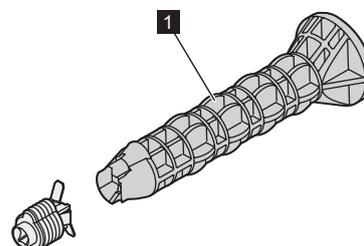

Fig. 16: Inserting the holder into the assembly tool
2. Insert the holder into the assembly tool (Fig. 16/1); only one position is possible. A magnet in the tool prevents the holder from falling out.